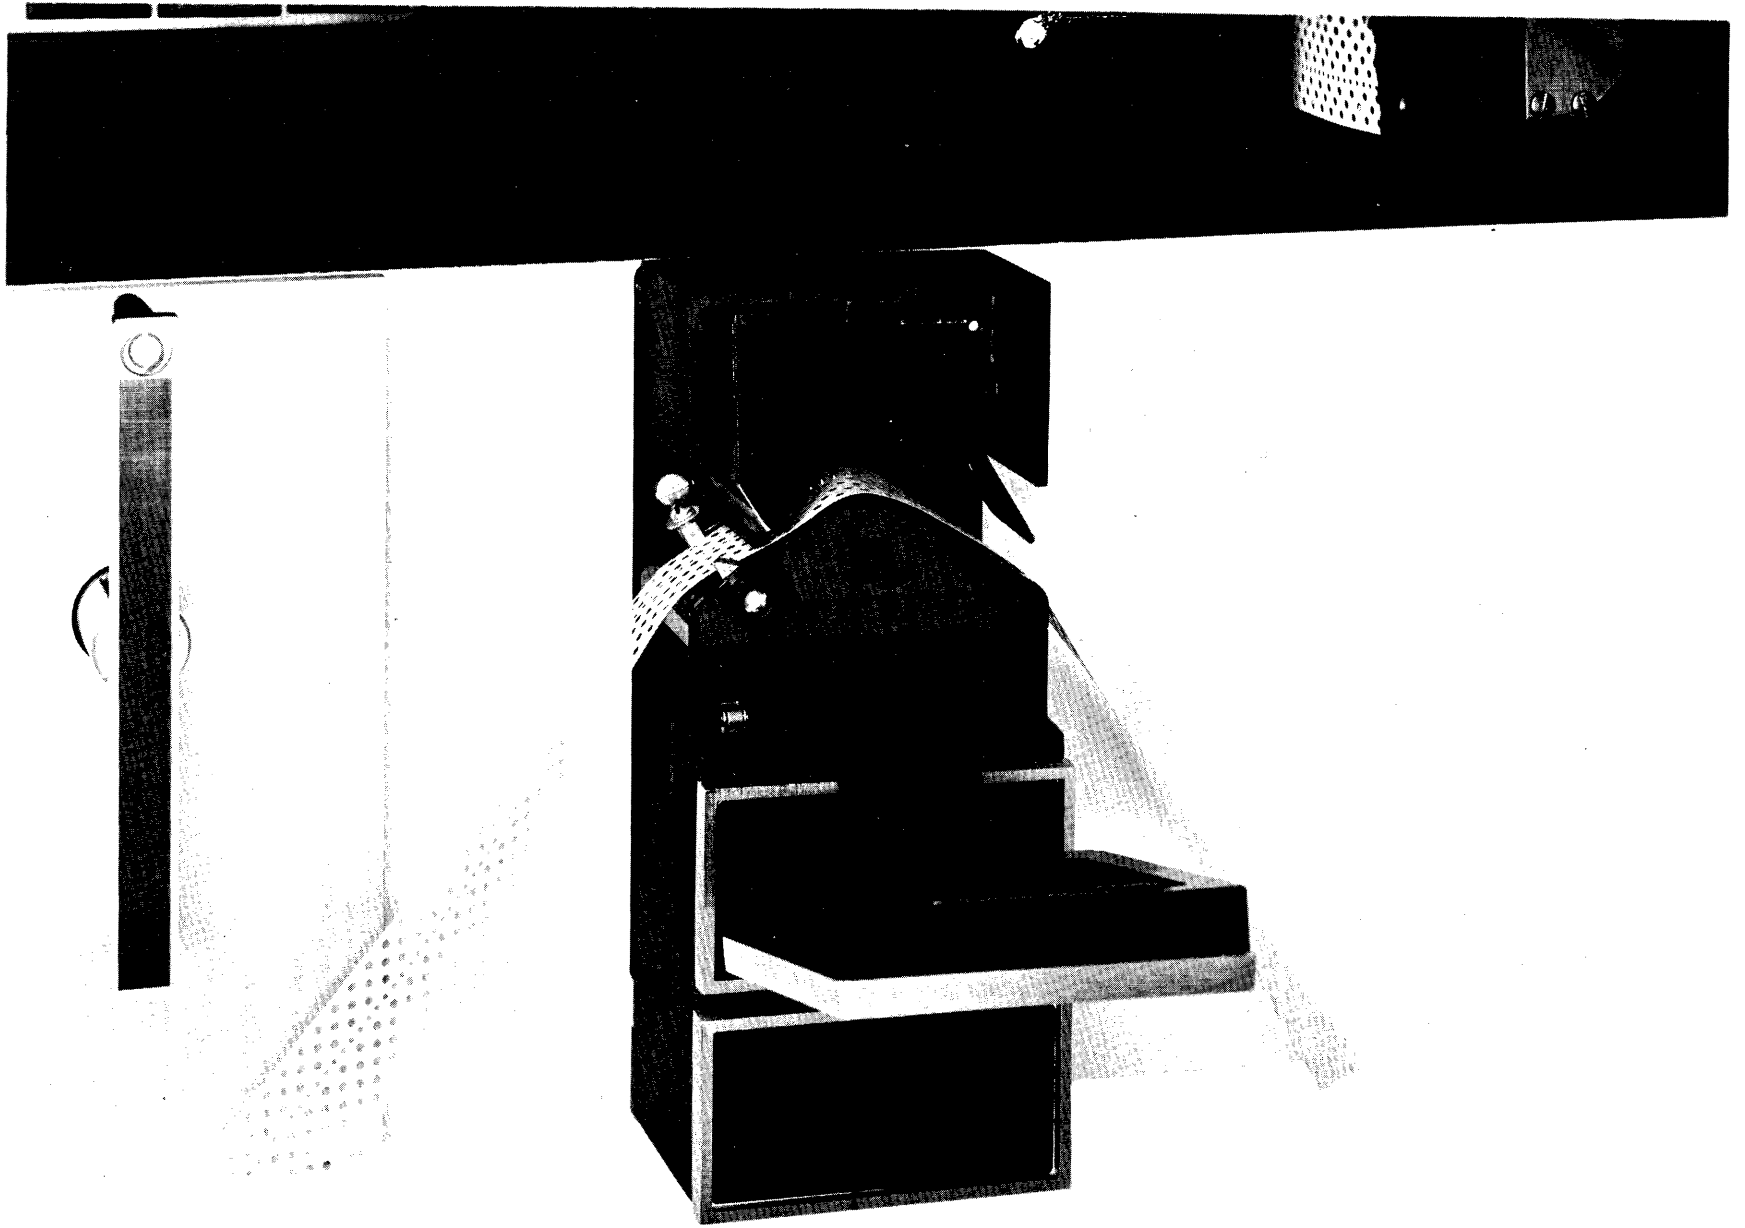

Figure 3-6. Tape Loading, Reader Section
- e. Insert the tape as shown in Figure 3-6.